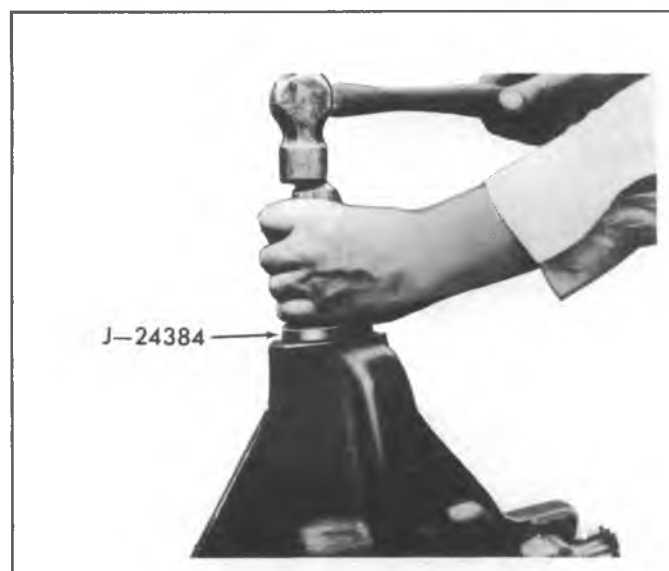

Fig. 4B3-11--Installing Pinion Oil Seal
14. Install new pinion oil seal into housing as shown in figure 4B3-11, using J-24384.